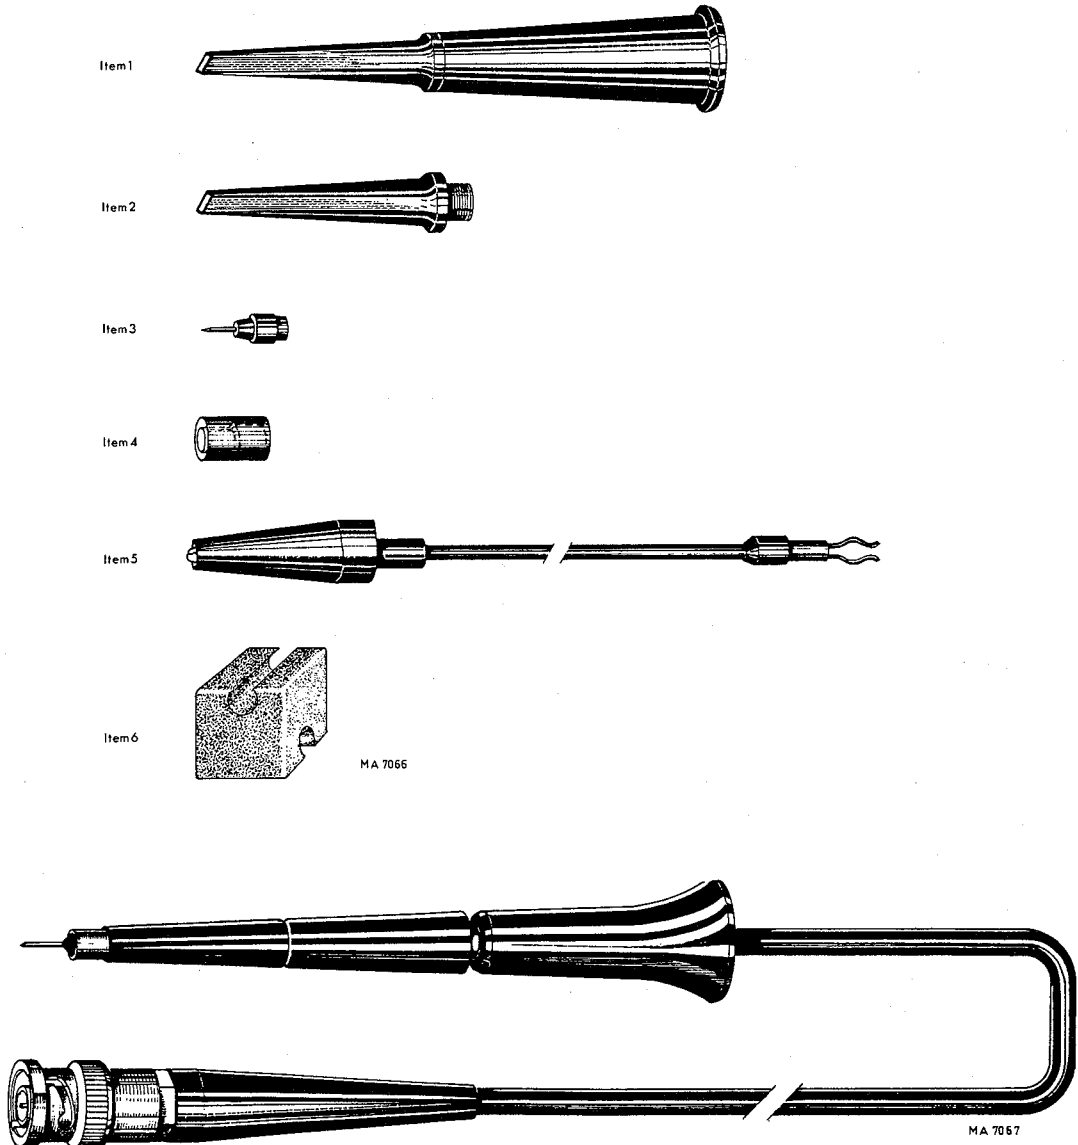

Fig. 3.22. Probe set PM 9335 (PM 9335L)
1 test hook	Fig. 3.22, item 1
2 spare test hook sleeves	Fig. 3.22, item 2
2 spare probe tips	Fig. 3.22, item 3
1 protective cap	Fig. 3.22, item 4
1 earthing lead	Fig. 3.22, item 5
1 probe holder	Fig. 3.22, item 6
1 probe assembly	Fig. 3.22, item 7